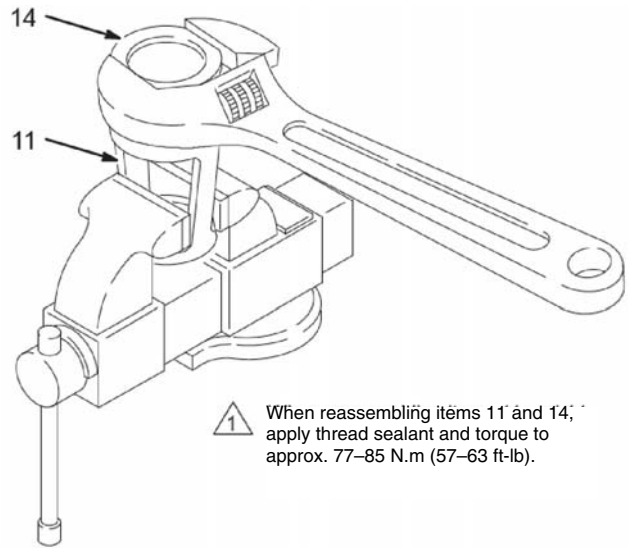
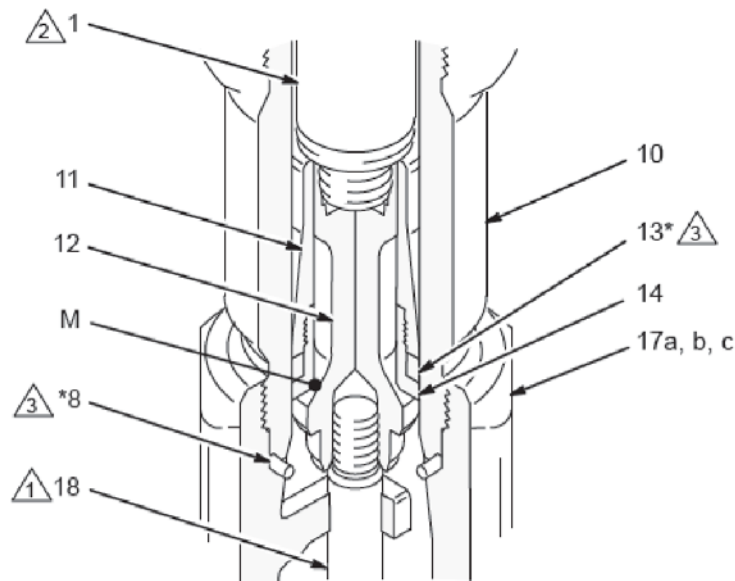

Fig. 11
Fig. 12
9. Remove the seal (8) from the bottom of the cylinder (10). See Fig. 12. Shine a light into the cylinder to examine the inside surface for scoring or damage. **Only if the cylinder is damaged, or there is evidence of leaking around the top cylinder seal (8),** unscrew the cylinder from the outlet housing, using a pipe wrench. Remove the top cylinder seal.
10. Place the flats of the displacement rod (1) in a vise. Unscrew the piston (12) from the displacement rod; the priming piston rod (18) will come with it. Slide the piston guide (11) and seat (14) off the piston (12).
11. It is not necessary to remove the priming piston rod (18) from the piston (12) unless your inspection reveals damage to either part. To disassemble, place the piston flats in a vise and unscrew the rod.
12. Place the piston guide (11) in a vise, as shown in Fig. 11. Using an adjustable wrench, unscrew the piston seat (14) from the guide. Remove the seal (13); always replace it with a new one. Inspect the mating surfaces (M) of the piston (12) and piston seat (14) for damage or wear. See Fig. 12.
2. With the beveled side facing up, press the intake valve seal (39*) into the recess of the intake valve packing nut (15) until it snaps into place. The nose of the seal should be flush with or slightly recessed into the face of the packing nut.
3. Place the flats of the valve body (16) in a vise. Screw the packing nut into the valve body hand-tight. Set the intake housing assembly aside.
4. Lubricate the piston seal (13*) and install it on the piston seat (14). Apply thread sealant to the threads of the seat and the piston guide (11). Screw the guide onto the seat (14). Place the guide in a vise as shown in Fig. 11 and torque the seat to 77-85 N.m (57-63 ft-lb).
5. If it was necessary to remove the priming piston rod (18) from the piston (12), place the flats of the piston in a vise. Using an adjustable wrench on the flats of the rod, screw the rod into the piston. Torque to 125-139 N.m (92-102 ft-lb). Be careful not to create burrs on the flats of the rod.
6. Place the piston seat/guide assembly onto the piston (12) so the 45° beveled seating surfaces match. Screw the displacement rod (1) into the piston (12) hand tight, then torque the rod to 324-368 N.m (239-271 ft-lb).
-  Optional Displacement Pump 237945 uses all PTFE v-packings (item 24).
-  1 Piston check valve (see Fig. 12).